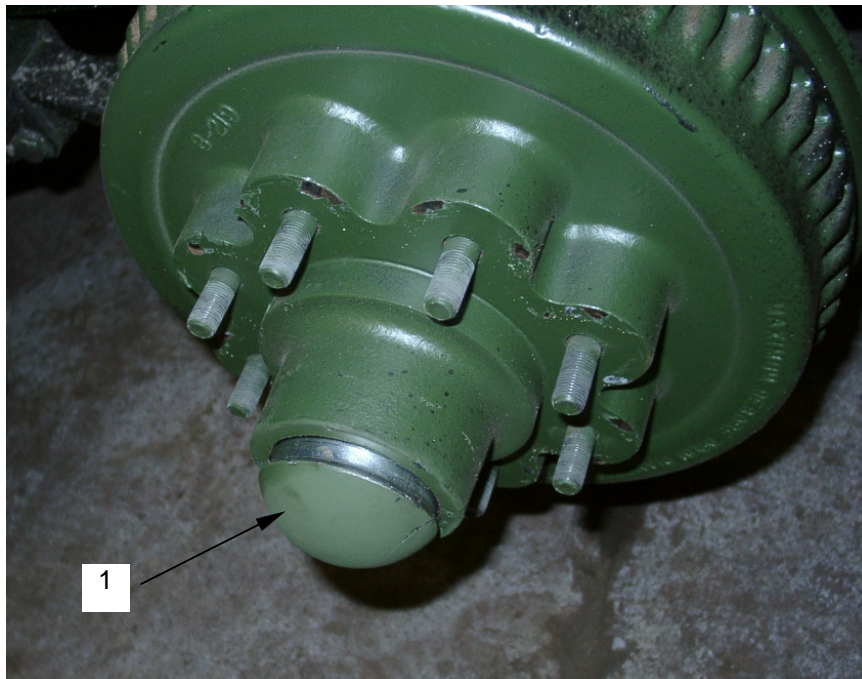

Figure 37. Wheel Bearing Cap
yy. Install wheel bearing cap (**figure 37, item 1**) on wheel.